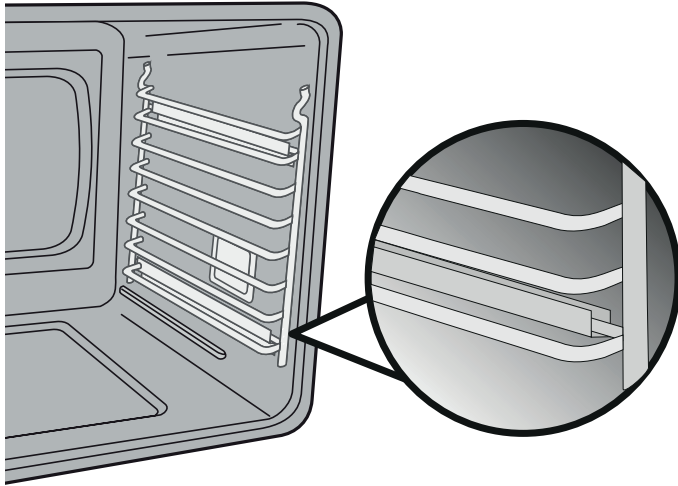

Figure 11: Ladder rack supports
1. Place the ladder racks hook-side up into the support brackets located on the oven sides (see Figure 11).